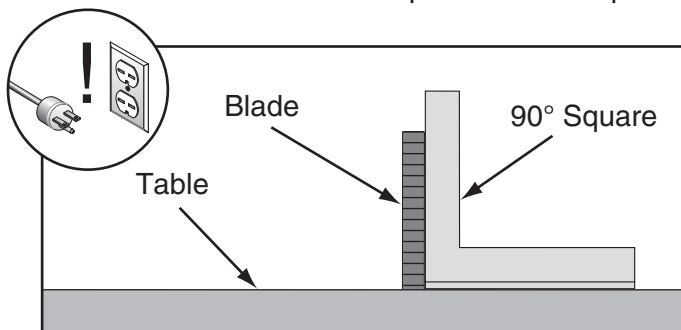

Figure 104. Checking blade at 90°.
3. Place 90° square against table and blade so it contacts blade evenly from bottom to top, as shown in **Figure 104**. Make sure a blade tooth does not obstruct placement of square.